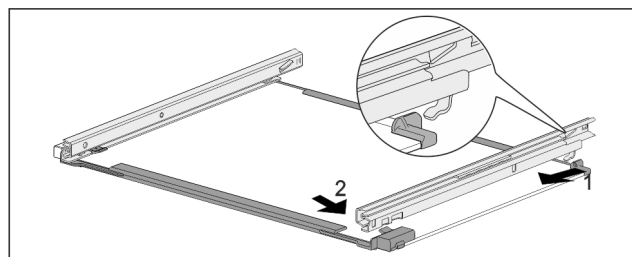

Fig. 144 Glass shelf with rails
- ▶ Hook in rail at the back. Fig. 144 (1)
- ▶ Hook in rail at the front. Fig. 144 (2)